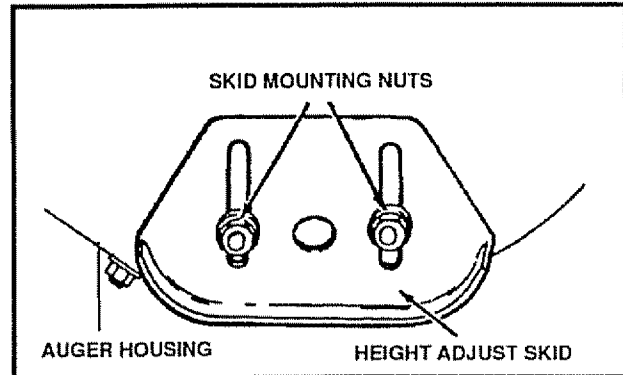

FIG. 21
This snow thrower is equipped with two height adjustment skids, located on the outside of the auger housing (See Fig 21). These skids elevate the front of the snow thrower.
- Loosen the skid mounting nuts (See Fig 21) and adjust the skids up to bring the front of the snow thrower down. Re-tighten the mounting nuts.